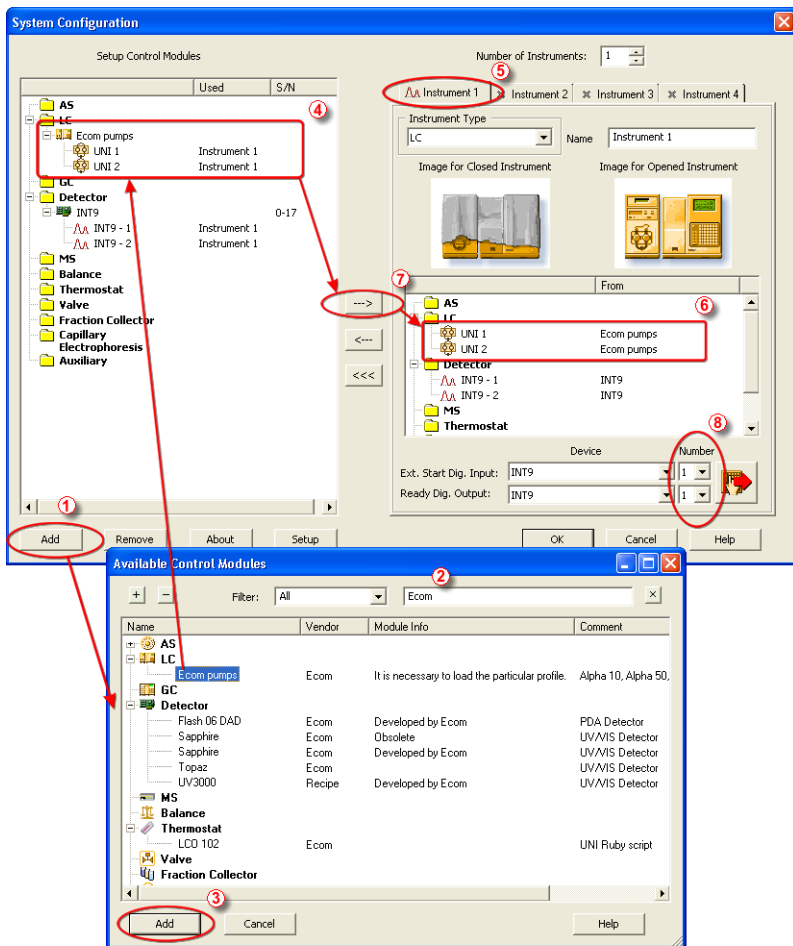

Fig 2: How to add **Ecom pumps**
Start the **Clarity** station by clicking on the  icon on the desktop. Invoke the **System Configuration** dialog accessible from the **Clarity** window using the *System - Configuration...* command. Press the **Add** button ① (see Fig 2 on pg 6.) to invoke the **Available Control Modules** dialog. You can specify the searching filter ② to simplify the finding of the driver. Select the **Ecom pumps** item and press the **Add** ③ button.